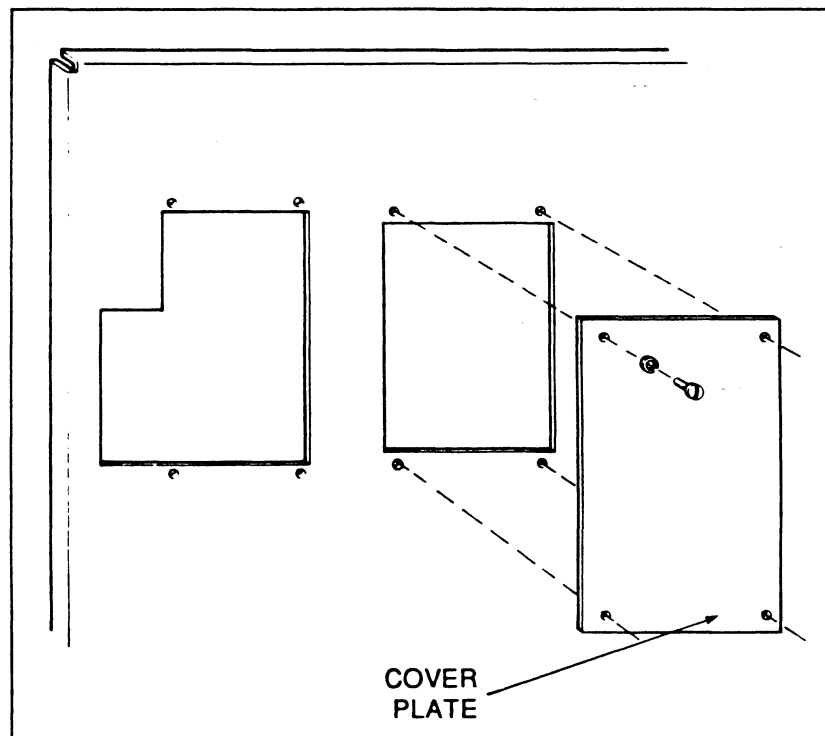

Figure 2-7 Rear Cover Plate Removal
1. Remove the Comm. Mod. cover plate on the rear of the terminal (see Figure 2-7). Save all screws and washers.